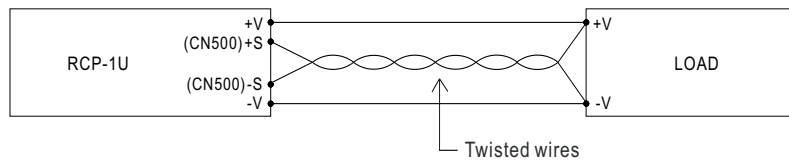

Figure 3-4: Connection for using the "Remote Sense" function
- ⊙ When using this function, the sensing wires should either be twisted or shielded to prevent external noise interference. (refer to Figure 3-4)